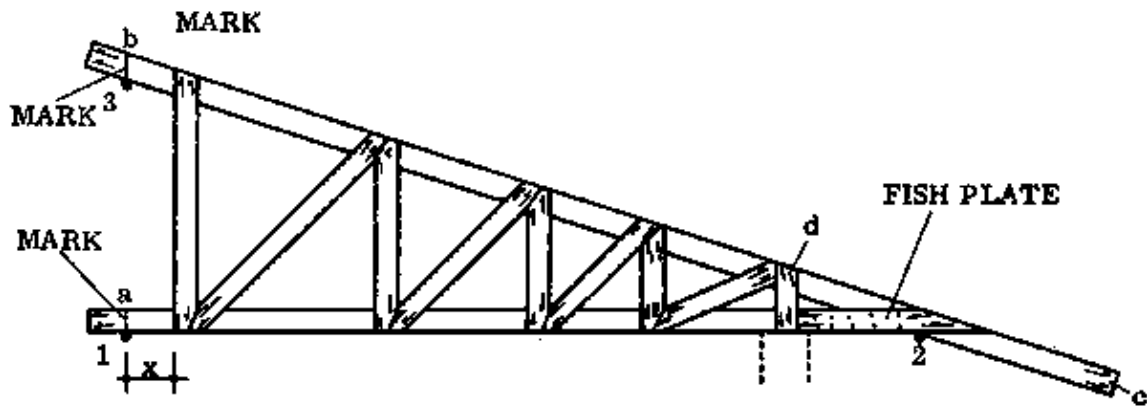

Fig. 3
- f. Cut the rafter-to-tie beam joint. Mark the inside end of the tie beam (a) and the inside end of the rafter (b). Make sure that the rafter has a long projection on the eave end (Fig. 3). This projection is trimmed only just before the fascia board is fixed (c).
g. Nail the braces and the fish plates. The last vertical brace on the ridge end is set back (Fig. 3, x) so that there is space to fit the trusses together later. Nail a short vertical brace (Fig. 3, d) where the tie beam meets the supporting wall.